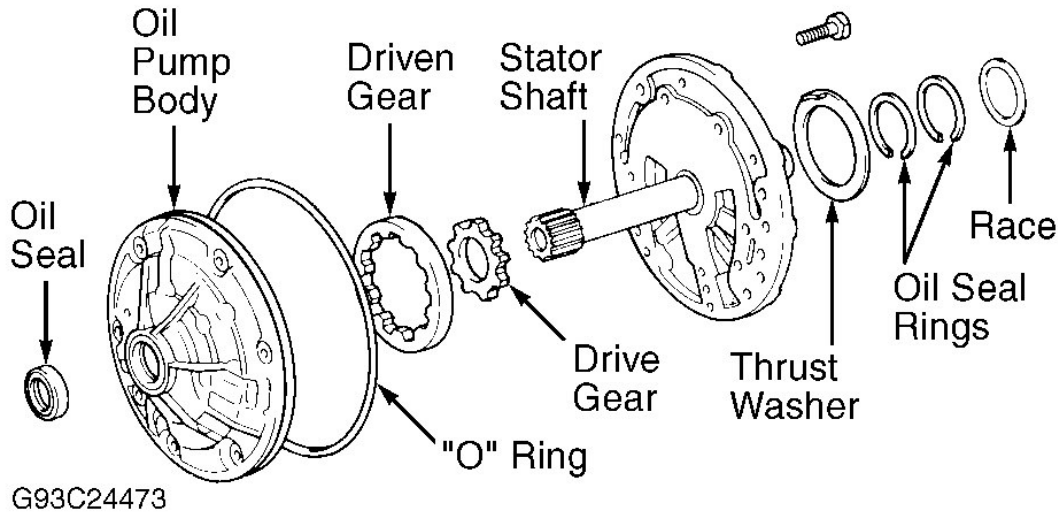

Fig. 17: Exploded View Of Oil Pump Assembly
2. Mark stator shaft and pump body for reassembly reference. Remove stator shaft bolts. Separate stator shaft and pump body. Mark gear location for reassembly reference. Remove pump gears. Using screwdriver, remove oil seal. See **Fig. 17**.
2. Install thrust washer on pump body. Align washer tab with hollow of pump body. Install oil seal rings. Ensure rings rotate smoothly after installation. DO NOT spread oil seal ring ends more than necessary for installation. Using screwdrivers, check drive gear for smooth rotation. Install "O" ring. Install race on stator shaft. See **Fig. 17**.